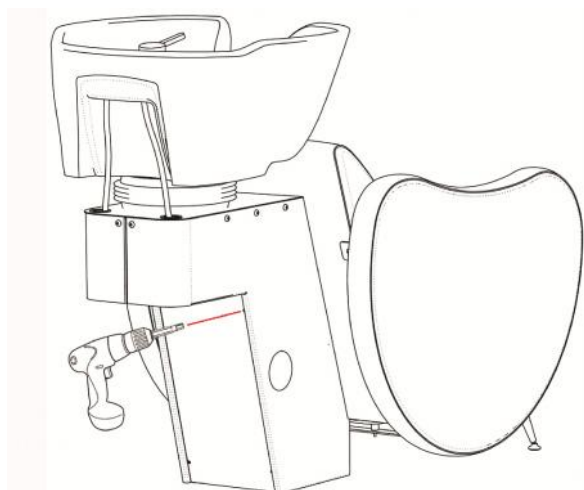

Fig.1
- 3) Once the sink is positioned properly, remove the metal rear cover, placed behind the column, by unscrewing the fixing bolts. Fix the metal column to the floor with the appropriate anchoring blocks, or if the floor is not sufficiently compact, with a chemical anchoring agent (not provided) , Pull down drain pipe, hot & cold feed pipes. Proceed with the hydraulic connections, making sure to verify the easy movement of the sink with its maximum range of tilting. When wall plumbing is needed, lay down the drain pipe on the slant, minimum 1 cm per meter (fig.1 – 2 – 3 – 4 - 5 – 6 – 7 - 8)